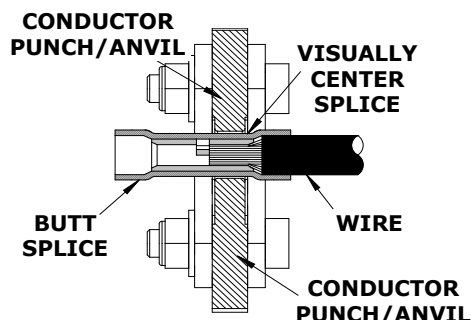

Figure 3
5. When crimping butt splices, insert the wire into the butt splice. Position the splice and the wire in proper nest with the conductor crimp on the conductor barrel of the splice. The splice should be approximately centered inside the tooling nests. See Figure 3. Cycle the tool.